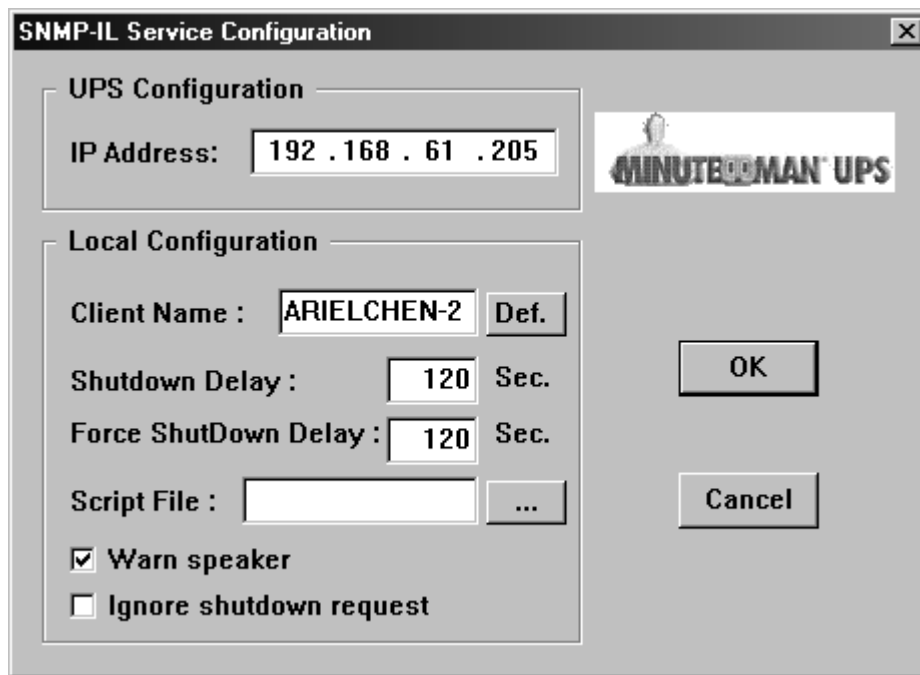

Figure 6-1 The set-up screen
3. A dialog box will be posted on the screen, type in the IP address of designated SNMP-IL, its client name and shutdown delay time (Figure 6-1). Click the Def. Button if you choose the client name as the workstation you are working on.